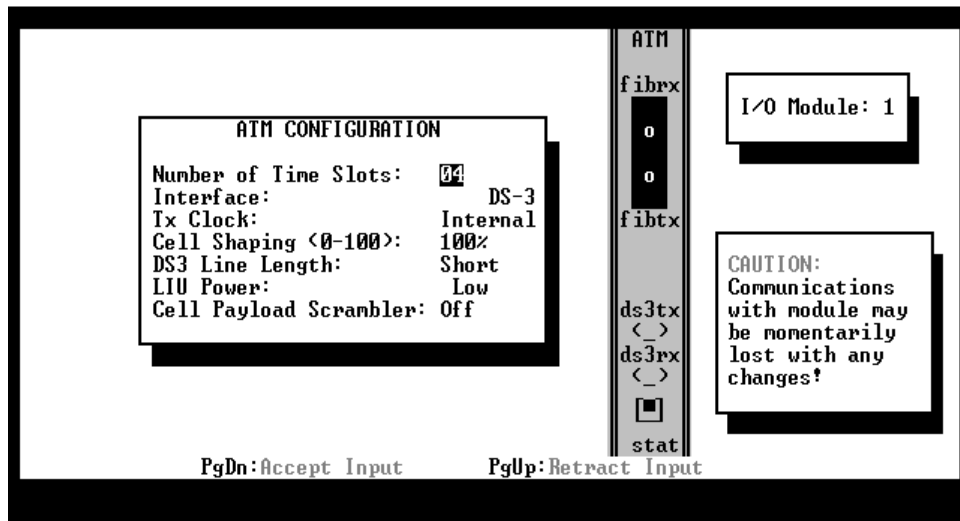

Figure 3-16. ATM I/O Module Configuration Screen
3. Choose C:onfiguration from the secondary legend. A screen similar to Figure 3-16 is displayed. Table 3-3 describes the modifiable parameters.